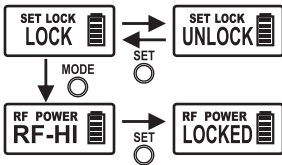

Fig. 15
10. Lock Setting. Fig. 15:
- (A) LOCK can be changed to LOCK or UNLOCK.
- (B) Press MODE button to access LOCK parameter. Press SET button, the parameters start flashing. Press SET button again, the parameter will change circularly. Press MODE button to save or the parameter saves automatically when flashing stops.
- (C) LOCKED mode indicates all the parameters cannot be changed and power button cannot work. Press SET button and the screen displays LOCKED.
- (D) Repeat same procedures to change back to UNLOCK mode. UNLOCK mode indicates power is operational and the parameters can be changed.